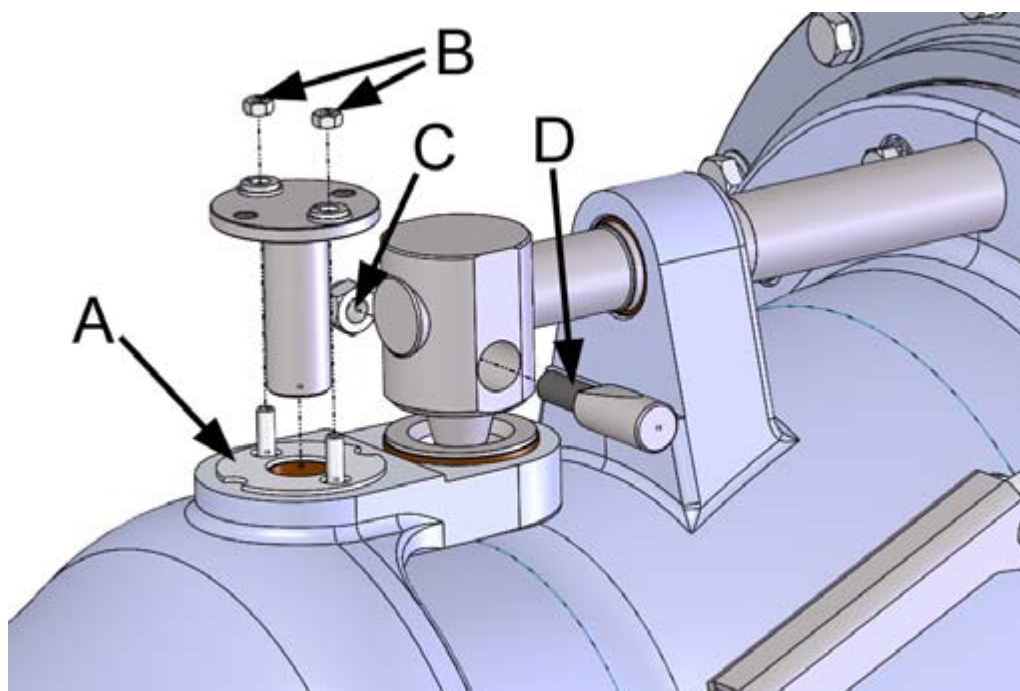
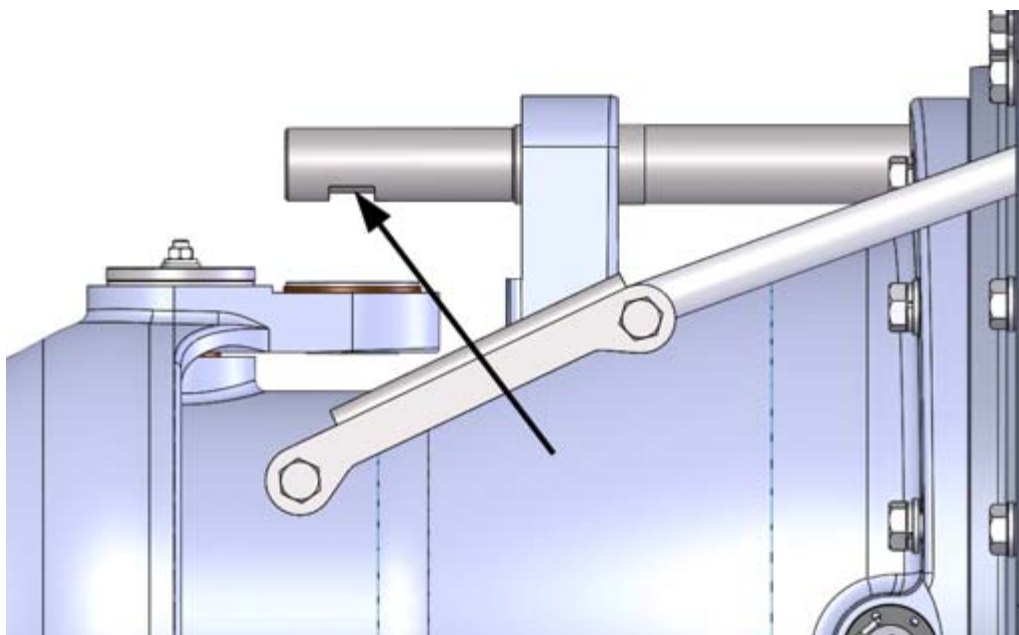

Figure 63. Installing the spindles
Figure 64. Correct position of the dowel pin on the steering shaft
2. Fit the spindles into place and tighten the locking nuts (2 pcs/spindle, figure 63, point B).
Make sure that the plastic seal between the spindle and the steering nozzle is in place (figure 63, point A). Carry out the same procedure on the spindle at the bottom of the steering nozzle.
3. Push the dowel pin (figure 63, point D) through the hole on the shaft of the steering shaft and tighten it with the locking nut (figure 63, point C).
Note that the dowel pin must be installed the right way in accordance with the figure (figure 63) and that it must be correctly wedged against the steering shaft (figure 64).